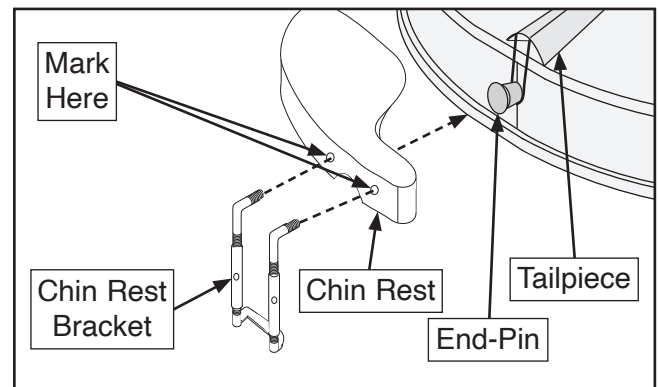

Figure 16. Marking chin rest for bracket installation.
1. Test fit chin rest. Make sure to center curve at bottom of chin rest over tailpiece and end-pin (see **Figure 16**).
2. Center chin rest bracket over end-pin and tailpiece (see **Figure 16**).
3. Use a pencil to mark where chin rest bracket contacts chin rest (see **Figure 16**).